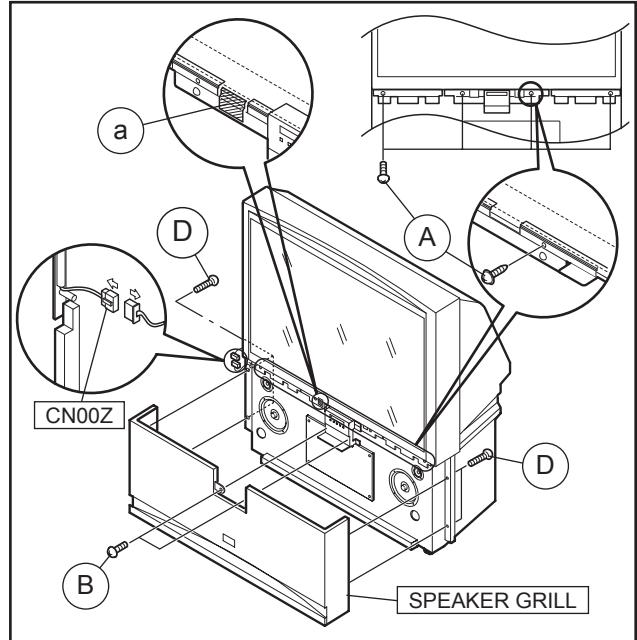

Fig.2
- (2) Remove the 2 screws [B] inside of the front door. [Fig.2]
- (3) Remove the 2 screws [D] on the left edge of the rear cover, and remove the 2 screws [D] on the right edge of the rear cover. [Fig.2]
- (4) Pull the speaker grill in front direction, and remove the speaker grill. [Fig.2]
- (5) Remove the connector [CN00Z] for the auto-convergence sensor on the left side of the set, and the clamp fixing the wire. [Fig.2]
- (6) Remove the 2 screws [A] on the left front panel bracket, and remove the 2 screws [A] on the right front panel bracket. [Fig.2]
- VOID seal [a] attached to the left front panel bracket in order to confirm that a person except JVC installation workers has disassembled the set. This seal is removed when the upper unit is removed, and the letters of "VOID" appears in the place where the seal. [Fig.2]
- (1) Lift the upper unit slowly, and then place the upper unit on the lower unit.
- (2) Adjust the front side of the upper unit to the brackets on the lower unit for attaching the upper unit.
- (3) Attach 2 screws [A] to the both side of the rear cover. [Fig.2]
- (4) Attach 2 screws [A] to the both edge of the rear cover. [Fig.2]
- (5) Attach the 4 screws [A] to the front panel bracket. [Fig.2]
- (7) Attach the speaker grill to the front side.
- (8) Attach 4 screws [D] to the both edge of the rear cover. [Fig.2]
- (9) Attach the 2 screws [B] to the front door. [Fig.2]
- (10) Attach the connector for the auto-convergence sensor.